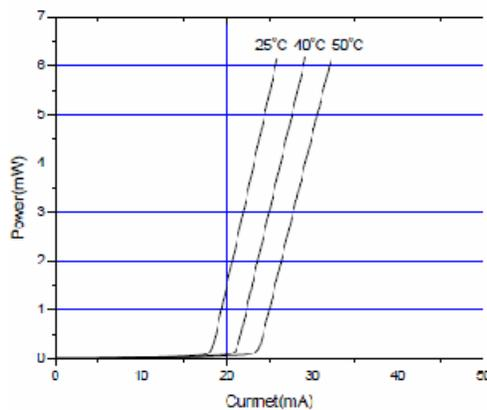

Figure 2 : The L/I Curve
5. *Plot a graph of Laser diode optical power V/s Laser diode current as shown in figure2 .(As this experiment is conducted at room temperature, only one graph for a single temperature will be obtained.)*
The most common of the diode laser characteristics is the L/I curve (Figure 2). It plots the drive current applied to the laser against the output light intensity. This curve is used to determine the laser's operating point (drive current at the rated optical power) and threshold current (current at which lasing begins). The efficiency of a diode laser is also derived from the L/I curve. It is most commonly expressed as slope efficiency and measured in units of mW/mA.